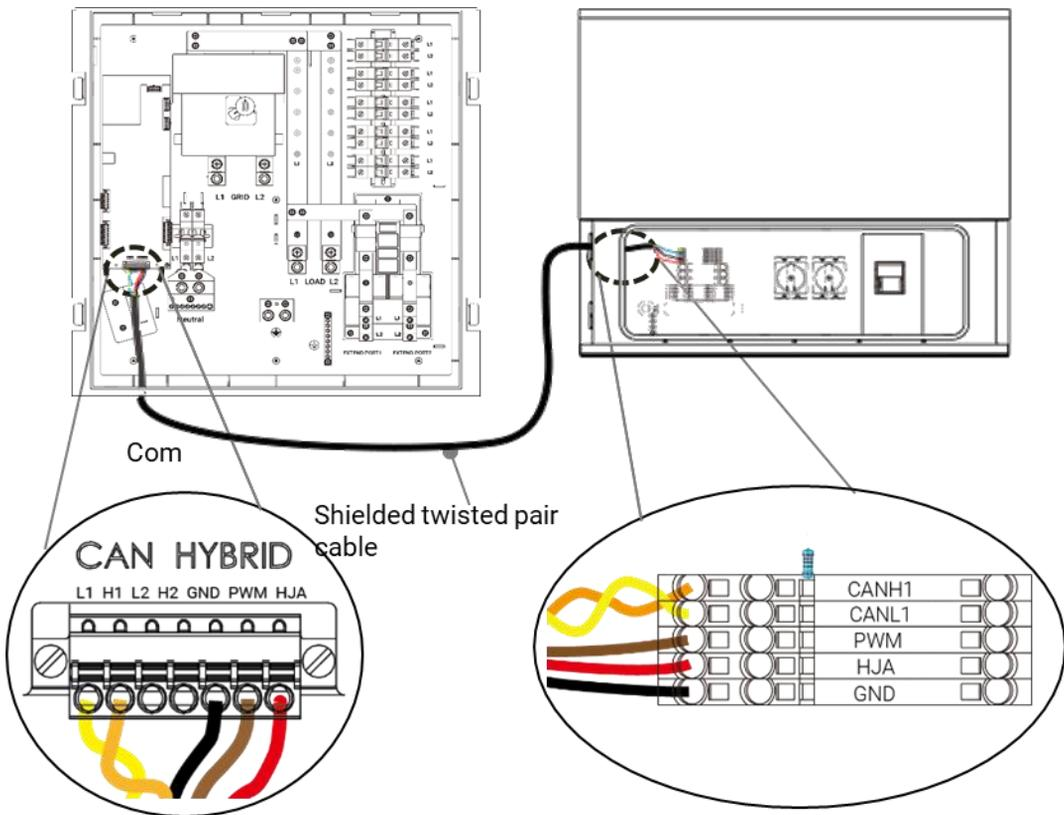

Figure 3. Smart Gateway to Hybrid Communication Wiring
c. Route the Hybrid communication wires through the conduit to connect it to the Smart Gateway CAN& RESS terminal: (Ref. Figure 3)
- Refer to Figure 3 for wiring the L2, H2, GND, PWM, and HJA terminals between the Hybrid and SmartGateway.